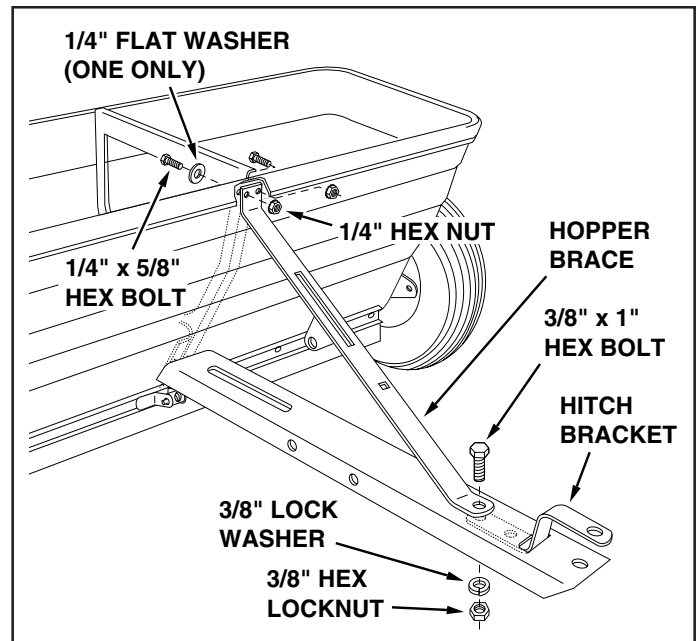

FIGURE 2
3. Attach the hopper brace to the hopper using two 1/4" x 5/8" hex bolts, one 1/4" flat washer and two 1/4" hex nuts. **Do not tighten yet.** See figure 2.
4. Place the end of the hitch bracket (two holes) down through the slot in the tongue. Attach the hopper brace to the top of the tongue and the hitch bracket to the bottom using one 3/8" x 1" hex bolt, 3/8" lock washer and 3/8" hex lock nut. **Tighten all bolts** assembled so far. See figure 2.